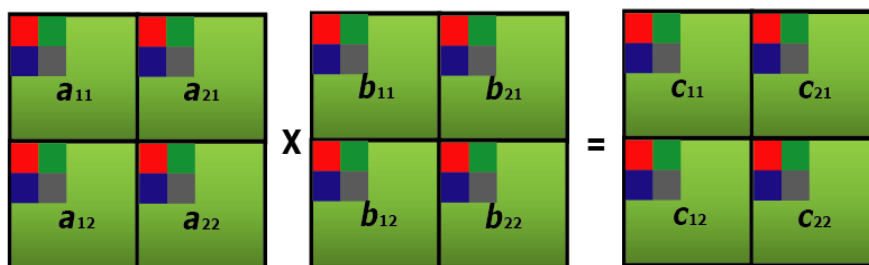

Figure 3.10 Micro-Tiled Blocked Matrix Multiplication
- To get the correct result, the input data must be preprocessed so that each four-component element in the input matrices contain a 2×2 micro-tile of data values from the original matrix (see Figure 3.10).